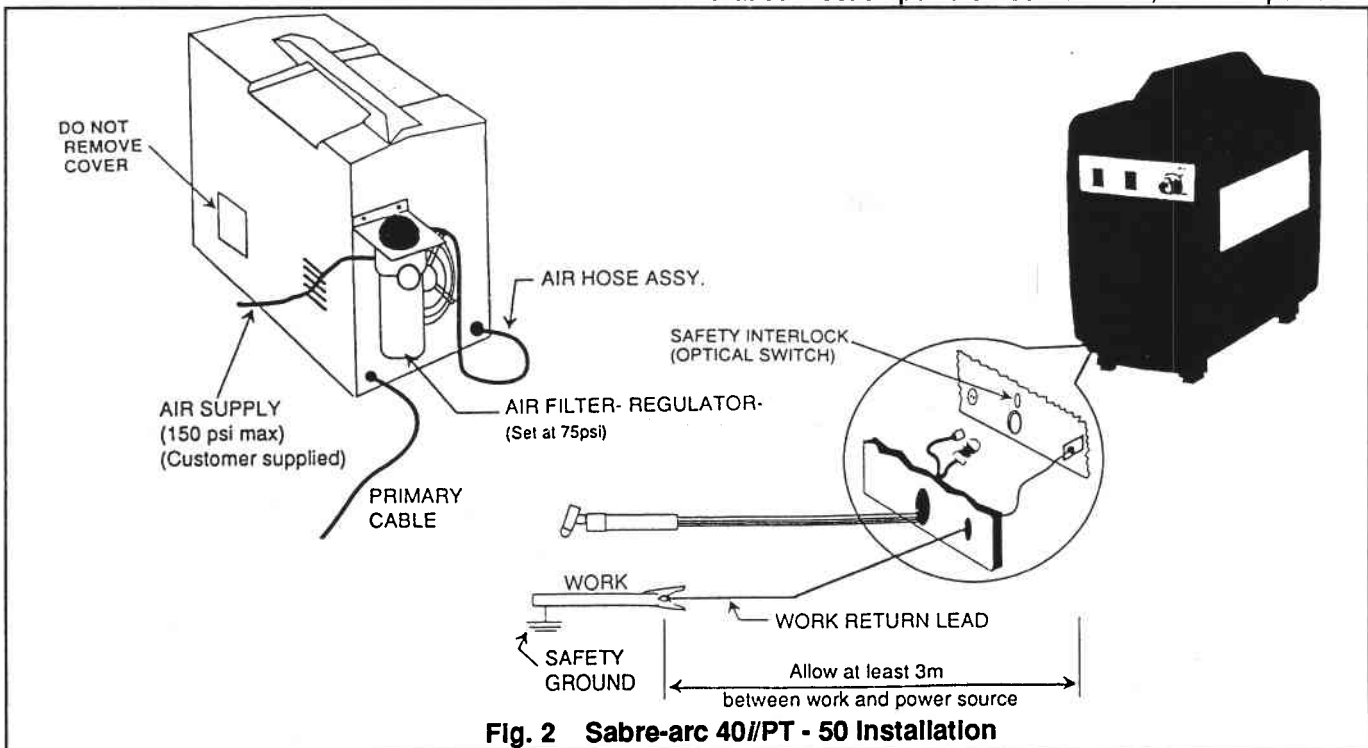

Fig. 2 Sabre-arc 40i/PT - 50 Installation
INSTALLATION - see Fig. 2
7. Assemble the air filter regulator to the rear of the unit as shown in Fig. 2. Connect the 0.75m long air hose to the filter regulator output (LH thread) and to the air inlet connection on the rear of the power source (RH thread). Ensure both hose connections are tight.